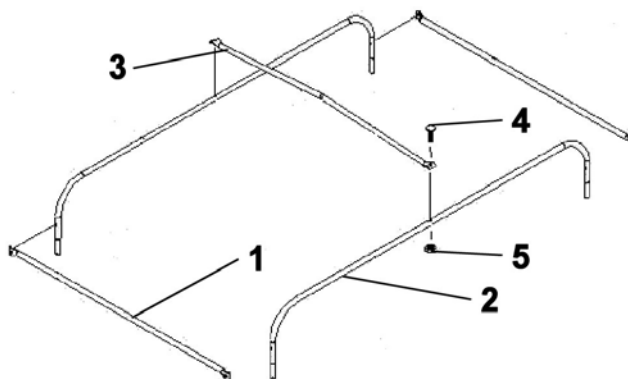

Figure 1
Assemble the top portion of the frame by attaching the link tubes (fig.1, item 1) to the side tubes (item 2) with four #10 x 1" machine screws. Attach the reinforcement tube (item 3) (angled portion facing upwards) directly in the middle. Secure loosely all the #10 x 1" machine screws (item 4) (screw heads on top) and nylon insert lock nuts. Place the assembly on a level surface to ensure that the structure is level.